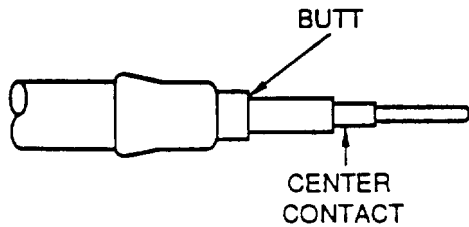

Figure 24. Install Contact
f. Install center contact onto center conductor to butt insulation as shown in Figure 24. Ensure that all wire strands enter the center contact wire barrel.